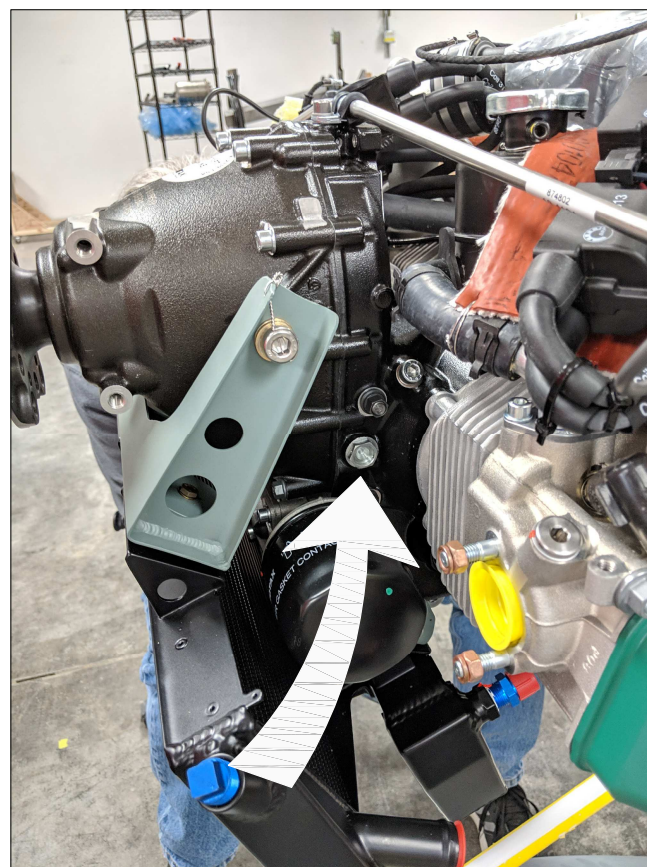

FIGURE 1: MAGNETIC PLUG LOCATION
Step 1: Safety wire the magnetic plug to the crankshaft plug screw as shown in Figures 1 and 2.